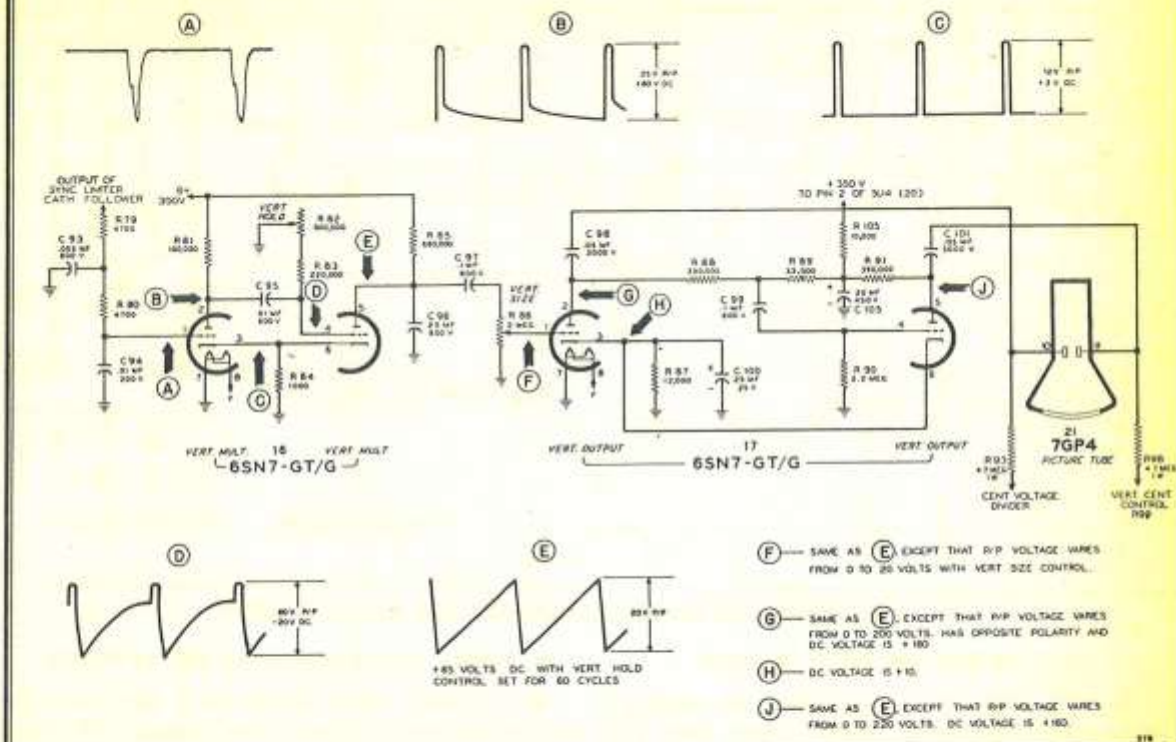

Figure 14. Vertical Sawtooth Generator and Sweep Amplifier
The vertical sawtooth generator (see figure 14) uses a type 6SN7 tube (16) as a conventional cathode-coupled multivibrator with an integrating circuit (R79, C93 and R80, C94) feeding sync pulses to the first grid (pin 1). The vertical multivibrator can be easily adjusted with the vertical hold control (R82) to sync at 60 cycles.